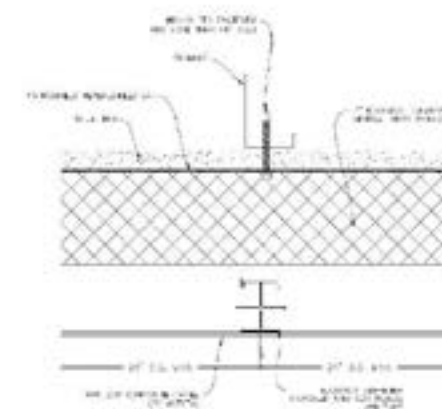

Figure 2 – Stiffener Spacing
- D. **STIFFENERS** – Adhere 6063 T5 aluminum stiffeners to the backside of the ZCM panels every 24 in. oc vertically using VHB tape (See Figure 2).